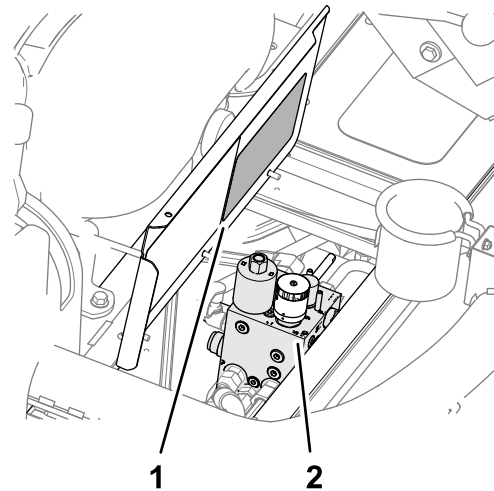

Figure 42
4. Open the platform cover (Figure 42).